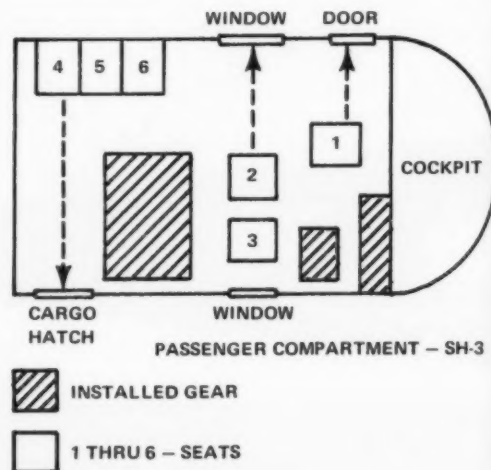

Fig. 1
• The passengers had not received any briefing and although all were given life vests and told to strap in, the cabin attendant did not check to see that the passengers were ready. After ditching, several passengers had to waste time putting on life jackets. One endorser said, "*All passengers must utilize (wear) Mae Wests on flights over water... and the pilot must ensure compliance with this requirement.*" It must be assumed by all flight crews that passengers are *not* familiar with the aircraft in which they are being carried. Cabin attendants must ensure, before takeoff, that all passengers have correctly donned survival gear, and then must check to see that safety belts are properly fastened. Passengers then must be briefed on procedures to be followed in the event of ditching or crash landing, what escape routes are to be used, what rafts to use and where they are located. *The whole nine yards!* Above all, pilots must not start a takeoff until advised by the cabin attendant that the briefing has been completed. Fig. 1 illustrates a handout that one helicopter squadron gives to all passengers. Fixed wing operators use similar handouts.